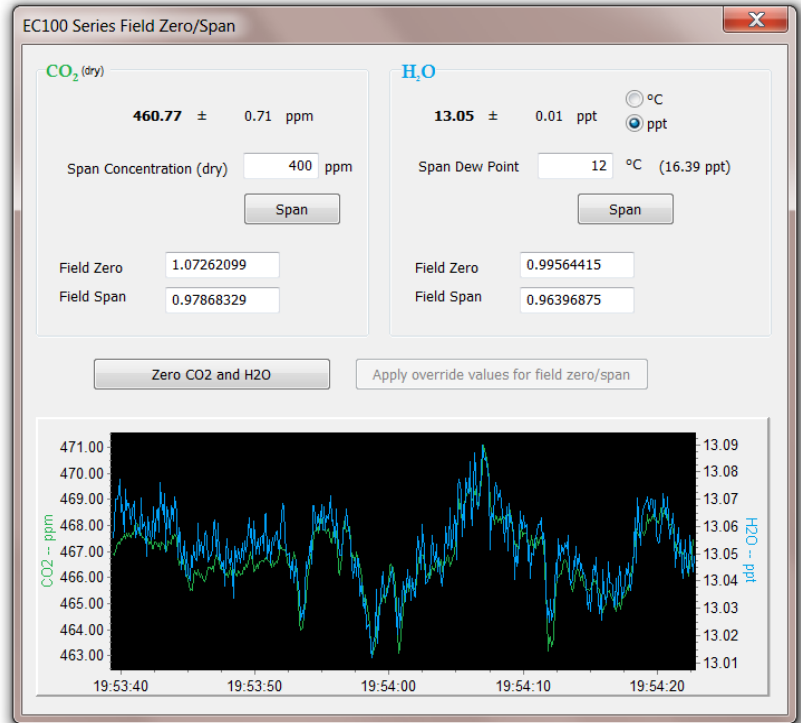

FIGURE 7-2. ECMon zero-and-span window
10. Click **Zero/Span**. A graph will appear in the lower half of the zero-and-span window showing measured CO2 and H2O concentrations (see FIGURE 7-2).